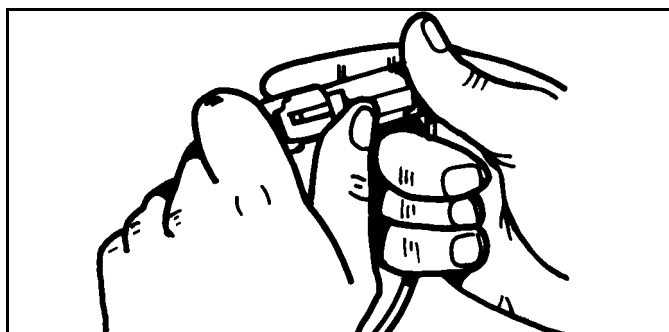

Figure 2-7
1. Open connector body. (See Figure 2-7)